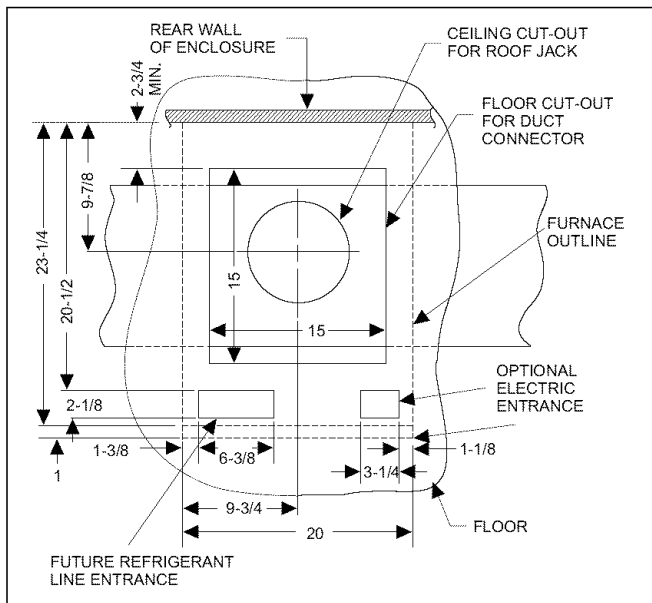

FIGURE 5 : RECOMMENDED FLOOR CUT-OUT (7990 SERIES)
1. Make floor cut out as shown in Figure 5.